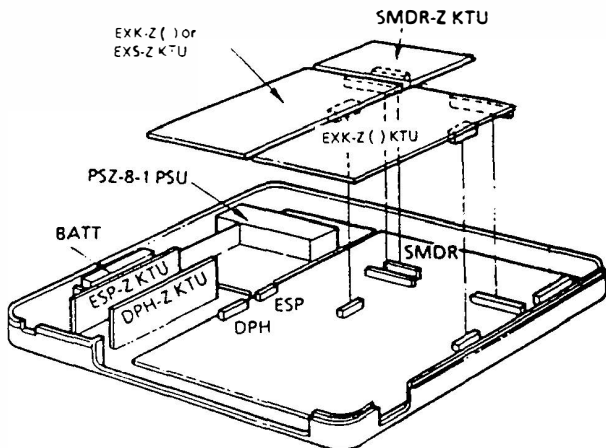

Figure 200-19 KTU Positions
- Be sure to mount the KTUs in their correct positions of the Key Service Unit as shown in Figure 200-19 KTU Positions. Make any connections and switch settings, on the KTUs, prior to mounting them in the KSU.